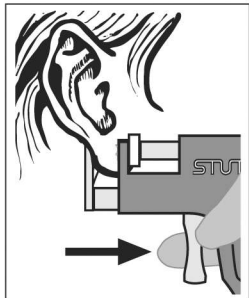

Figure 11
2. Keeping the proper alignment, continue to squeeze the trigger until it releases the plunger. In less than 1/10 of a second, the ear will be pierced and the clasp will be automatically installed on the stud with the proper spacing (Figure 11).